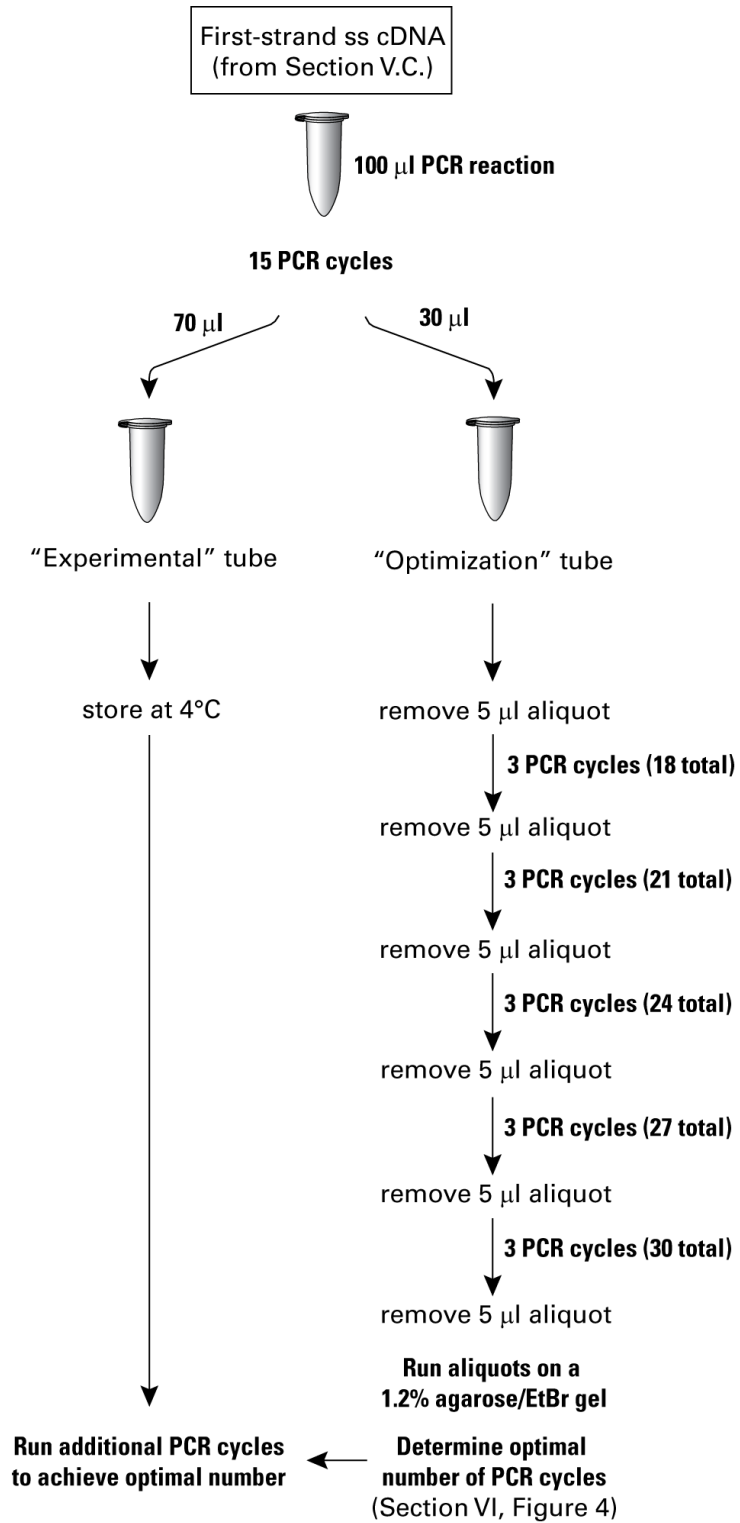

Figure 3. Optimizing PCR parameters for SMARTer Pico cDNA synthesis.
8. Subject each reaction tube to 15 cycles, then pause the program. Transfer 30  $\mu$ l from each tube to a second reaction tube labeled "Optimization". Store the "Experimental" tubes at 4°C. Using the Tester PCR tube, determine the optimal number of PCR cycles (see Figure 3):
For the best results, you must optimize the PCR cycling parameters for your experiment, as described in Section V.D. (Figure 3). Choosing the optimal number of PCR cycles ensures that the ds cDNA will remain in the exponential phase of amplification. When the yield of PCR products stops increasing with more cycles, the reaction has reached its plateau. Overcycled cDNA can result in a less representative probe. Undercycling, on the other hand, results in a lower yield of cDNA. The optimal number of cycles for your experiment is one cycle fewer than is needed to reach the plateau. Be conservative: when in doubt, it is better to use fewer cycles than too many.